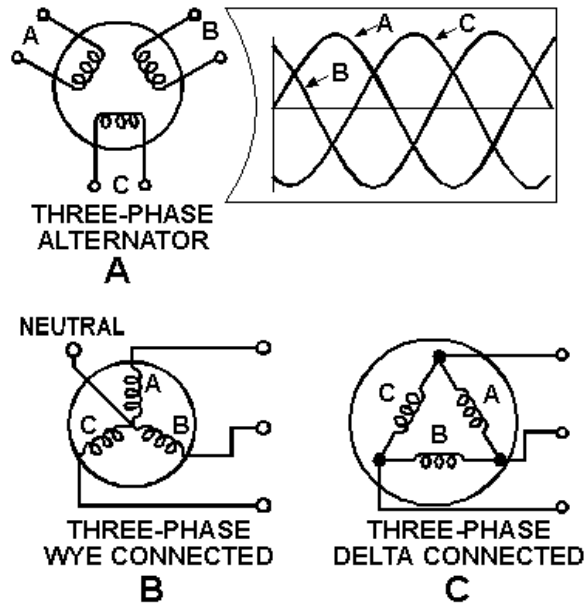

Figure 3-8.—Three-phase alternator connections.
The three-phase alternator, as the name implies, has three single-phase windings spaced such that the voltage induced in any one phase is displaced by 120° from the other two. A schematic diagram of a three-phase stator showing all the coils becomes complex, and it is difficult to see what is actually happening. The simplified schematic of figure 3-8, view A, shows all the windings of each phase lumped together as one winding. The rotor is omitted for simplicity. The voltage waveforms generated across each phase are drawn on a graph, phase-displaced 120° from each other. The three-phase alternator as shown in this schematic is made up of three single-phase alternators whose generated voltages are out of phase by 120° . The three phases are independent of each other.
Rather than having six leads coming out of the three-phase alternator, the same leads from each phase may be connected together to form a wye (Y) connection, as shown in figure 3-8, view B. It is called a wye connection because, without the neutral, the windings appear as the letter Y, in this case sideways or upside down.
A three-phase stator can also be connected so that the phases are connected end-to-end; it is now delta connected (fig. 3-8, view C). (Delta because it looks like the Greek letter delta, Δ .) In the delta connection, line voltages are equal to phase voltages, but each line current is equal to 1.73 times the phase current. Both the wye and the delta connections are used in alternators.